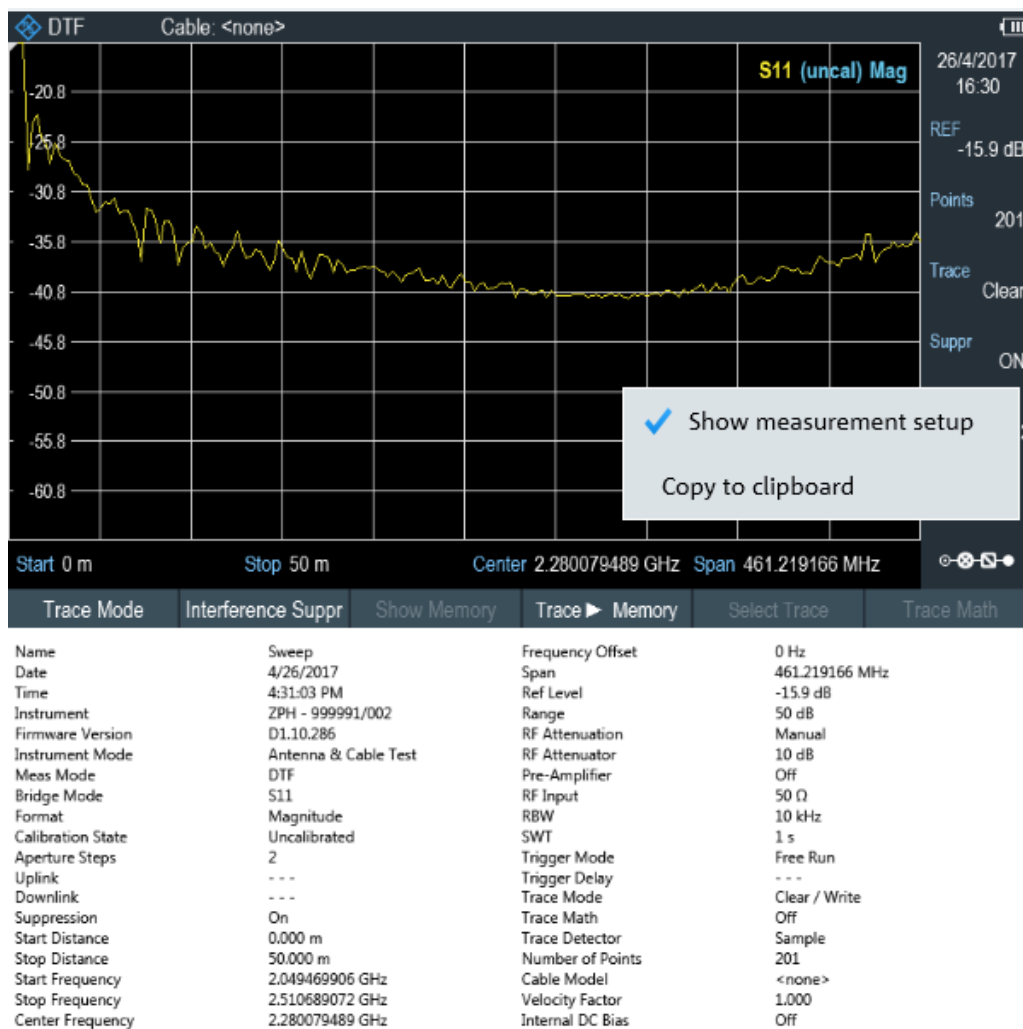

Figure 4-15: Screenshot
- "Show measurement setup" - If enabled, the instrument settings and the trace data are displayed below the screenshot. See Figure 4-15.
The "Screenshot" is used to capture the active instrument screen and display it in the trace window. See Figure 4-15.